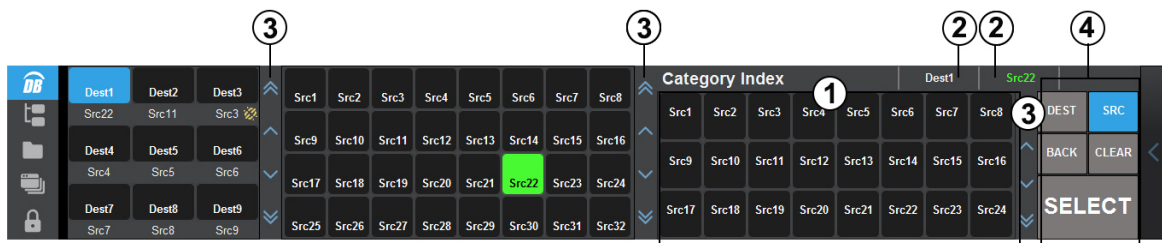

Figure 26 Example of a Default Category/Index Soft Panel Layout
**Figure 26** provides an example of an Ultritouch soft panel with a Category Index window and buttons.
This window provides access to the Destination and Source buttons for selected categories and indexes defined in the Ultrix database. The buttons that display in this window change depending on whether the DEST or SRC button was tapped. In **Figure 26**, the user tapped **SRC**, and the Category Index window displays buttons assigned to the Source category.